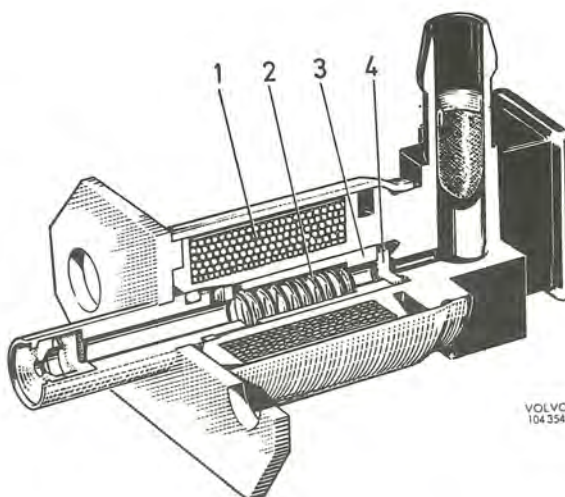

Fig. 2-111. Cold start valve
The cold start valve consists of a housing in which a magnetic winding and an armature are housed together with a return spring and packing, see Fig. 2-111. When the magnetic winding (1) is not in circuit, the packing (4) presses against the inlet for the armature (3) which in its turn is actuated by the return spring (2). This keeps the cold start valve closed.